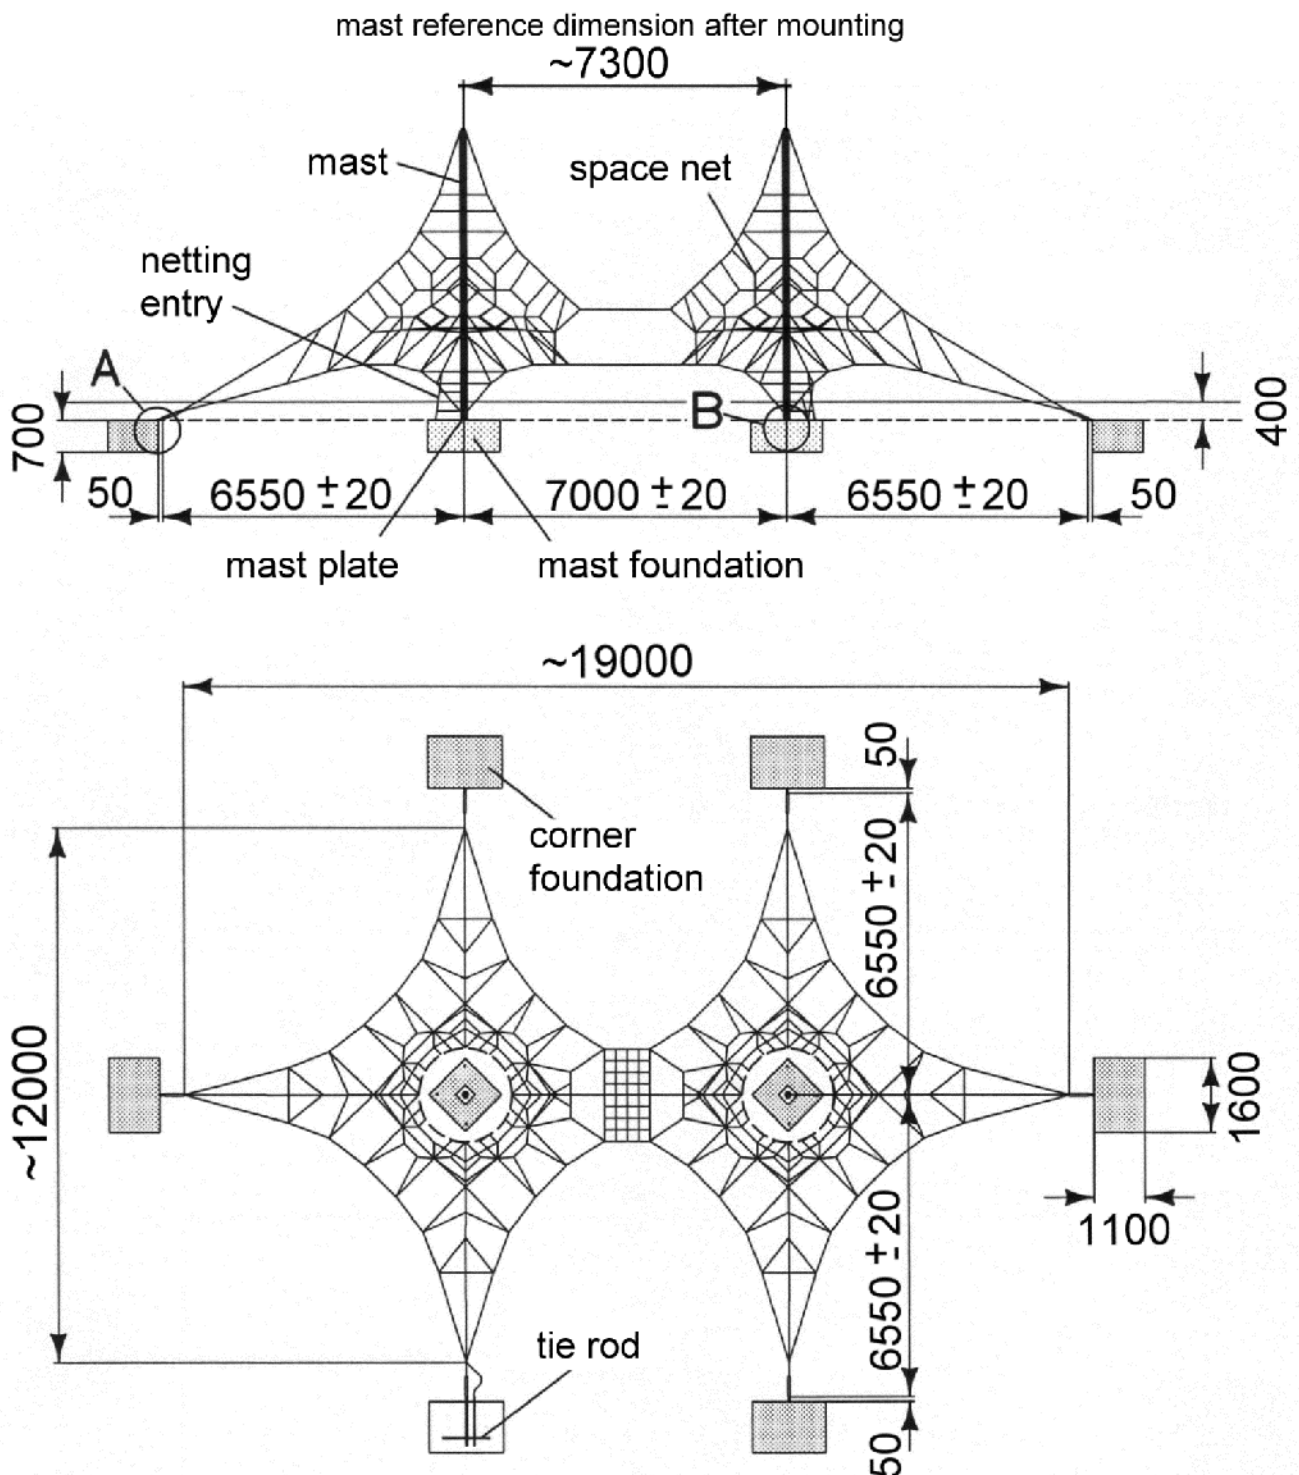
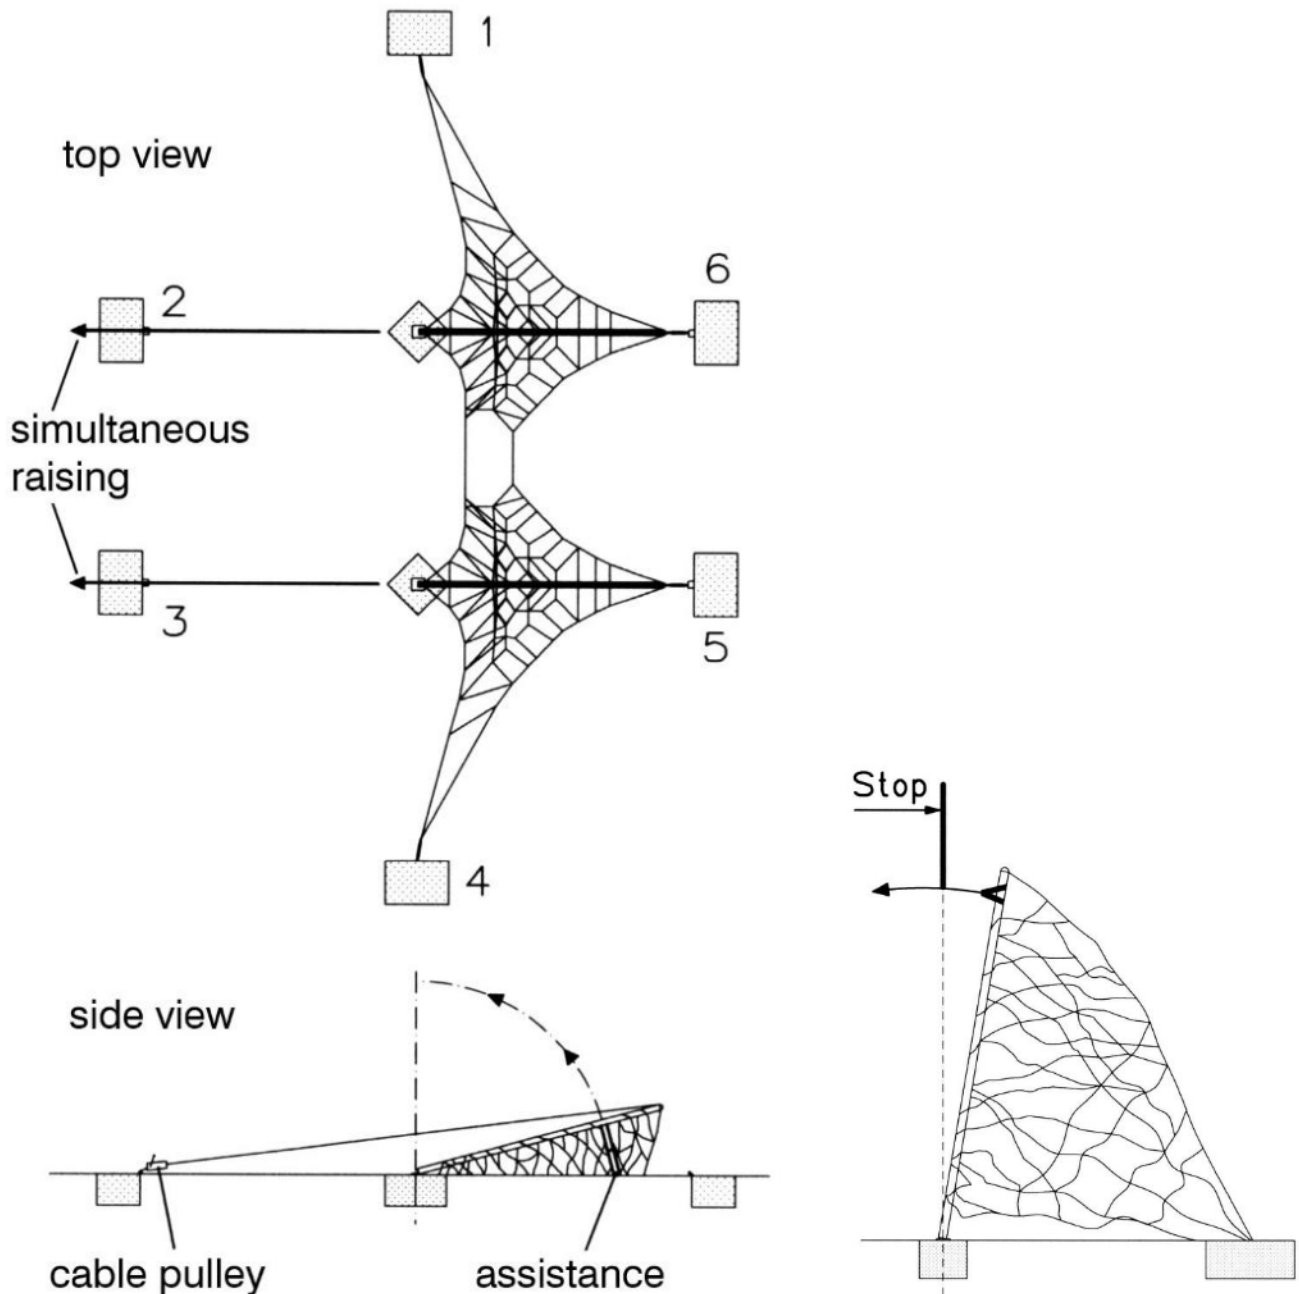
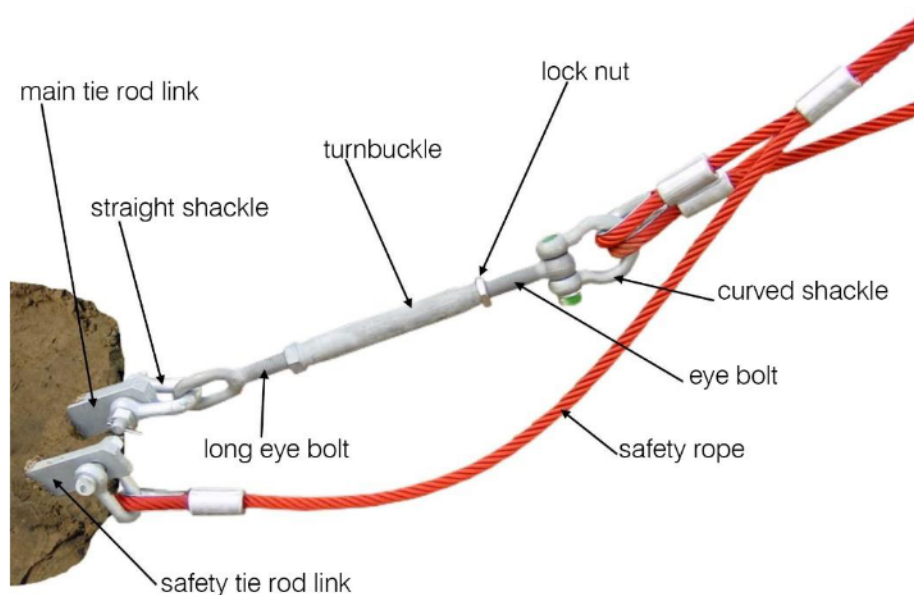

Fig. 3 – Front view and top view with foundations
Fig. 6 – Raising the masts
Fig. 7 – Connection between space net and foundation
In the factory, the space net is folded in a specific way when it is packed into the crate. Accordingly, when removing the net from the crate, be mindful of these folds. The net is spread out on the ground in such a way that the marked corner points 1, 4, 5 and 6 are positioned at their corresponding foundation point (**Fig. 6**). Connect the corners of the space net to the foundations 1 and 4 by connecting the shackles to the tie rod links (**Fig. 7**).
Push the masts through the space net to the two tops of the net. Make sure that the black painted markings (that mark the play level with their top edge) are pointing towards the mast plate. A hemp rope in the space net provides orientation while pushing the masts through. Once the masts have been pushed through, place the mast caps (at the tops of the net) in the masts, align the masts and support them provisionally at the top (**Fig. 6**). In this position, make sure that the bottom end of the masts are supported by the circular section of the mast plates.
Once the masts are raised more than 45°, connect the net to the foundations 5 and 6 (**Fig. 6**). Continue raising the masts until they are vertical and then make the last connections to foundations 2 and 3 (**Fig. 6**). A crowbar in the curved shackle can help pull the net towards the tie rod foundation.
Tensioning is carried out at the turnbuckles with the supplied tensioning tools (**Fig. 7**). After light pretensioning at all turnbuckles to ensure a secure stand of the pyramid, tension evenly at the turnbuckles of foundations 1 and 4 (**Fig. 6**) until the reference dimension of approximately 7300 mm is reached (in longitudinal direction, measured at the mast heads) (**Fig. 3**). The outward deviation from the vertical should be the same for both masts. Then tension only at the turnbuckles of foundations 2, 3, 5 and 6 (**Fig. 6**) as evenly as possible. Make sure that the masts are vertical in the transverse direction. The space net should be brought under clear and even pre-tension. After tensioning, tighten the lock nuts firmly.
- Check that the lock nuts on the turnbuckles are tight (**Fig. 7**).
- Check the shackle connection of the safety ropes to the thinner tie rod link (**Fig. 7**).
- Expose the turnbuckle and clean the threaded parts (**Fig. 7**).
- Make sure that the masts are standing vertical in the transverse direction and that the reference dimension of approximately 7300 mm is reached in longitudinal direction, measured at the mast heads (**Fig. 3**).